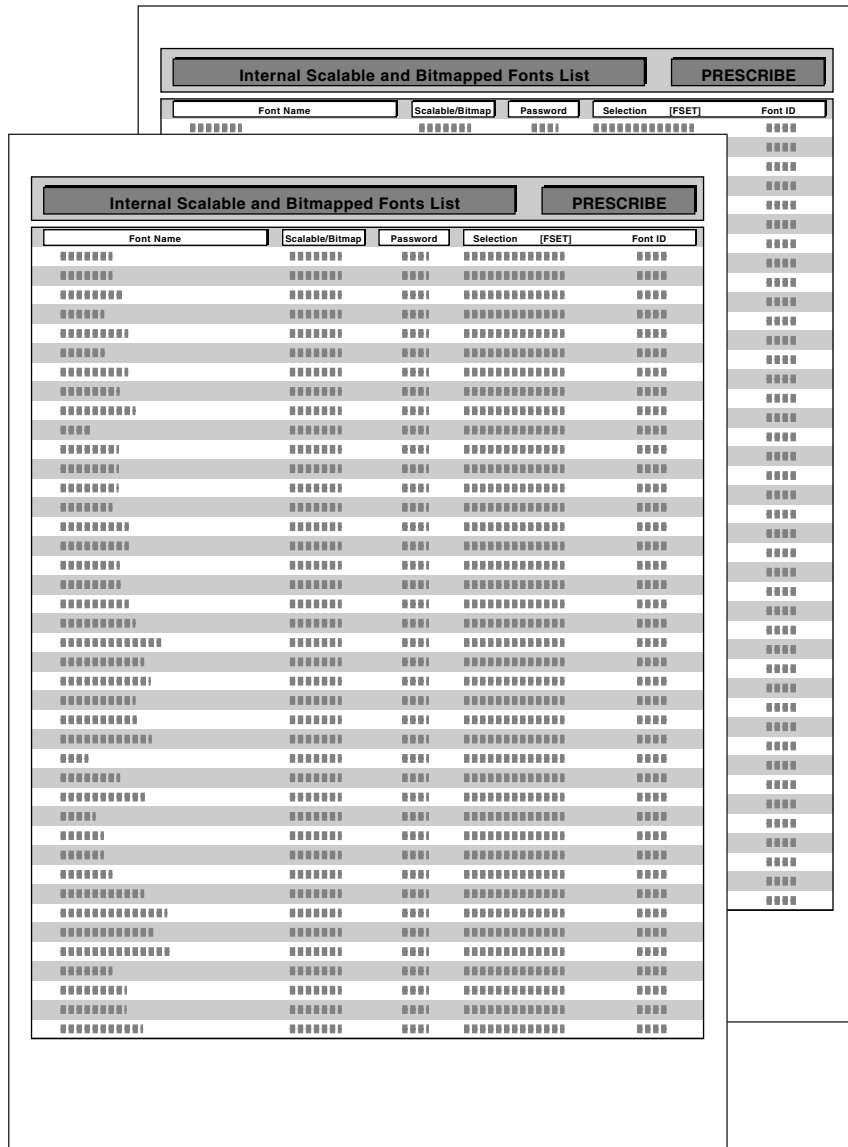

Figure 3-8
To help you decide in selecting a font, you can printout lists of the internal fonts or the optional fonts including downloaded fonts. Samples for font lists are shown in *Figure 3-8 on page 3-52*.
- 6 Press the **ENTER** key again. Processing appears, then Ready. The printer prints out a list of fonts with a sample and font ID (number) for each of them. Sample lists of fonts are shown in *Figure 3-8* on the next page.